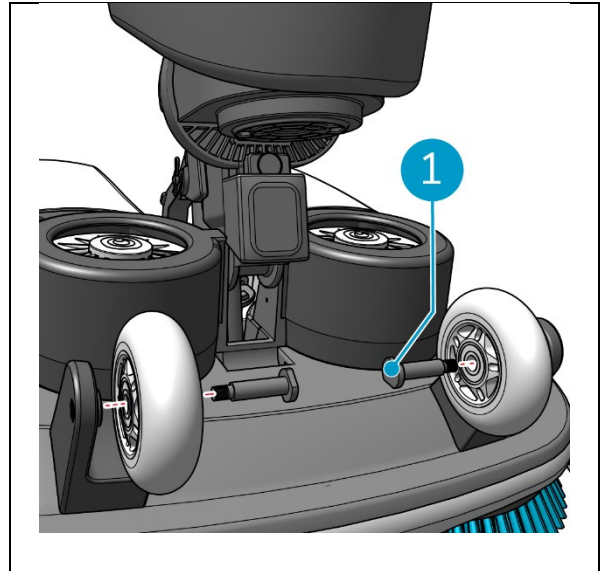

Figure 15
3. Reinstall the wheels with the dedicated axles (Figure 15, pos. 1).